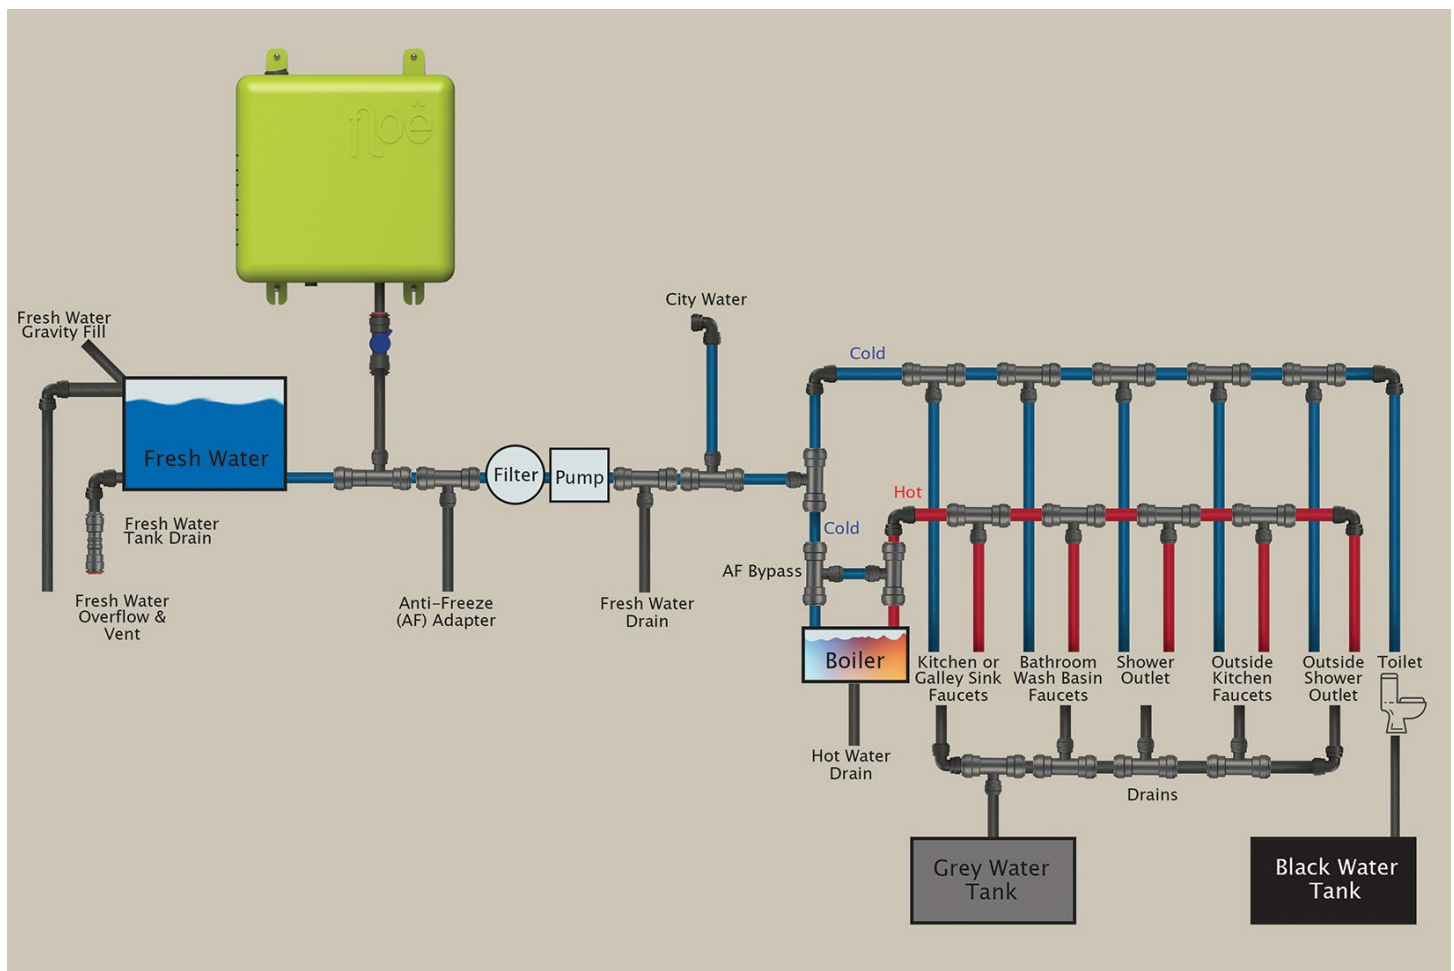

Fig.9
NOTE: Reference figure 9 during the operational procedures.
3. Close all faucets and outlets to seal water system (Fig.9). Make sure the system is set to draw water from the onboard water tank and not the city water inlet. Make sure the city water inlet is closed and sealed. Do not yet flush toilets.